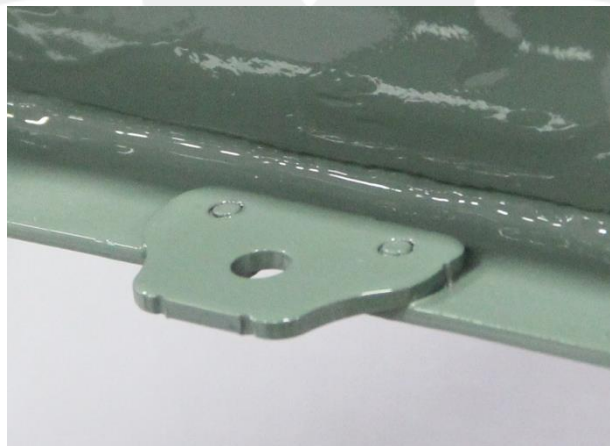

Figure 12
20. Spray the entire affected area with a thin coat of SEM Self Etching Primer (Figure 12).